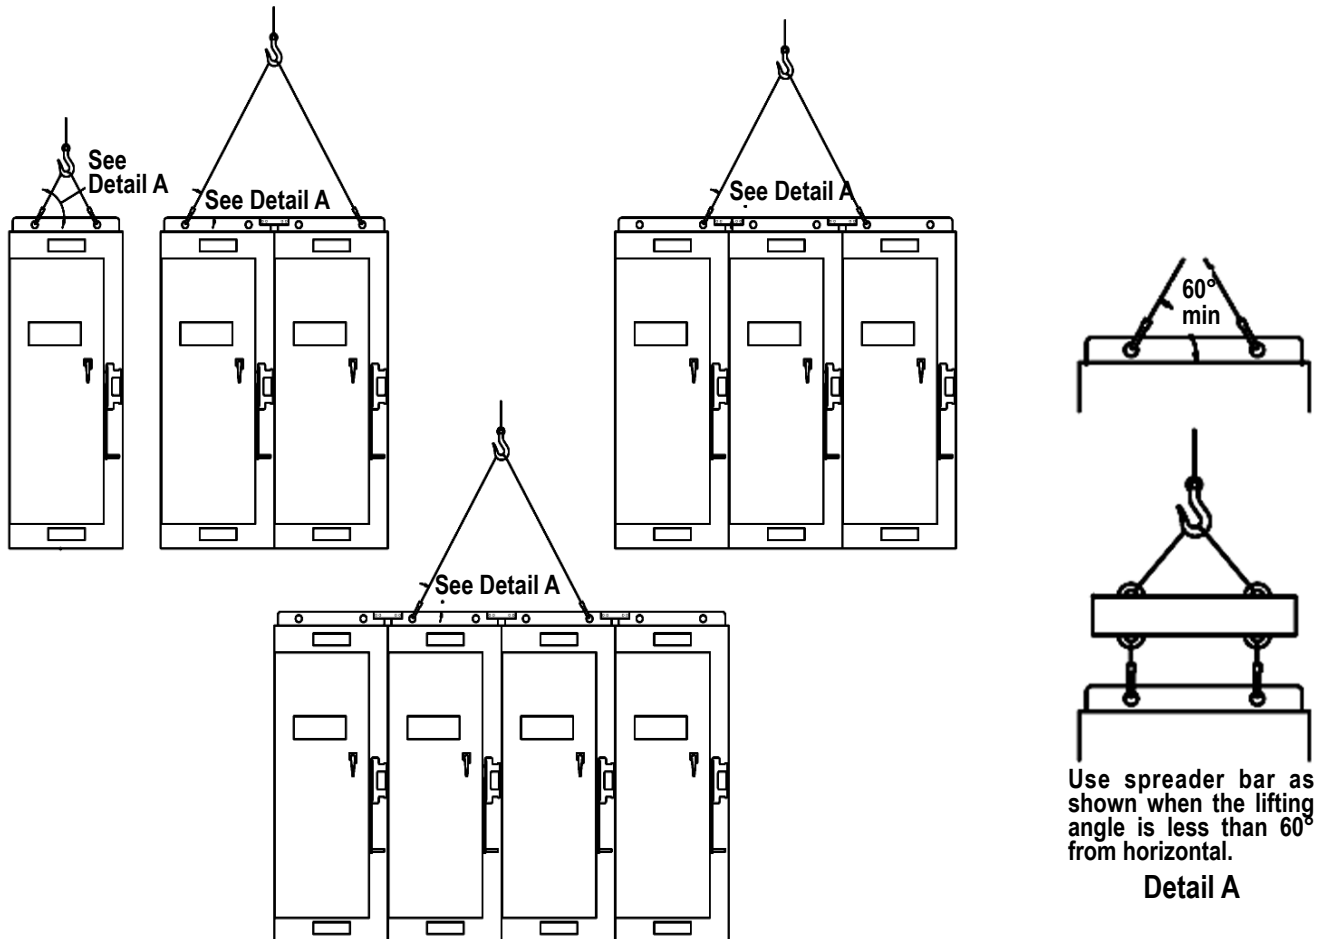
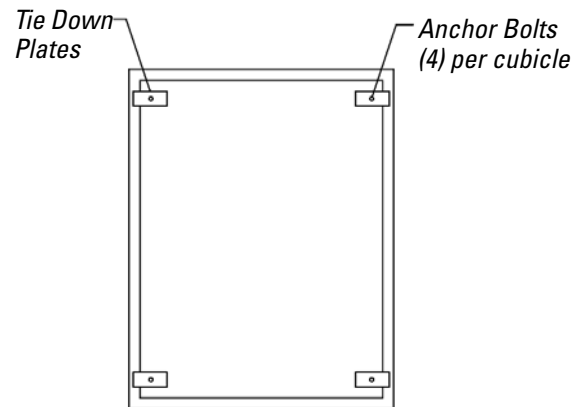

Figure 1. Hoisting arrangements for Federal Pacific Metal-Enclosed Switchgear.
Figure 3(a). Anchor-bolt and tie-down plate locations. Align level and shim bays so that holes between bays are in alignment.
1. Arrange hoist slings so as to distribute the lifting forces equally on all lifting holes. See Figure 1.
2. Do not apply lifting force to any lifting holes at an angle less than **60 degrees from the horizontal**. See Detail A, Figure 1.
3. If it is not possible to adhere to Instruction 2 use a spreader bar as shown in Detail A, Figure 1.
**Step 1** - Transport the switchgear to the installation site observing the precautions given under the **"HOISTING"** section in Figure 1.
**Step 3** - Each bay of a multi-bay assembly is identified by a number on the front of the bay. Proper positioning of the switchgear is indicated by corresponding numbers on the anchor-bolt plan shown in Figure 3(a) and shown in the drawing enclosed in the waterproof envelope labeled: **"OPERATION AND MAINTENANCE MANUAL PACKET"**.
With all shipping skids removed lift the unit over the anchor bolts, observing the precautions given under **"HOISTING"** in Figure 1. Align the channel base so that it is square with and centered around the rectangular anchor bolt pattern shown in Figure 3(a).